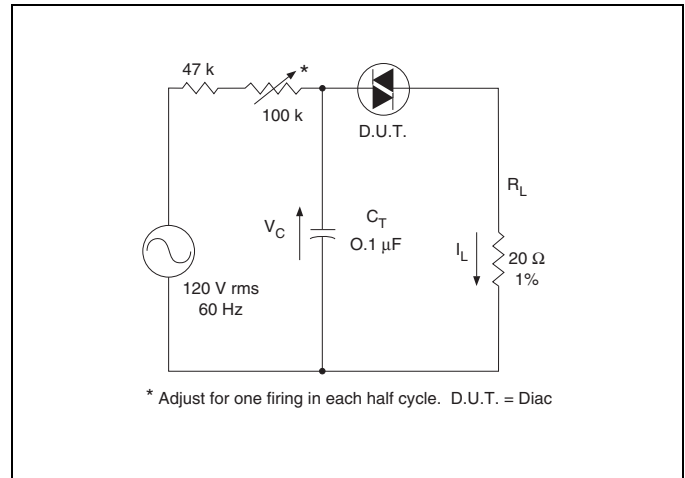
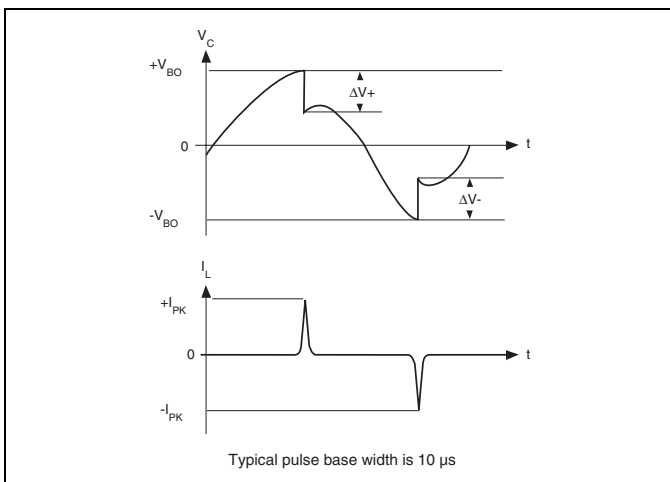

Figure E8.5 Circuit Used to Measure Diac Characteristics (Refer to Figure E8.4.)
Figure E8.4 Test Circuit Waveforms (Refer to Figure E8.5.)
- (1) Breakover voltage symmetry as close as 1 V is available from the factory on these products.
- (2) See Figure E8.4 and Figure E8.5 for test circuit and waveforms.
- (3) Typical switching time is 900 nano-seconds measured at I_{PK} (Figure E8.4) across a $20\ \Omega$ resistor (Figure E8.5). Switching time is defined as rise time of I_{PK} between the 10% to 90% points.
- (4) See V-I Characteristics.